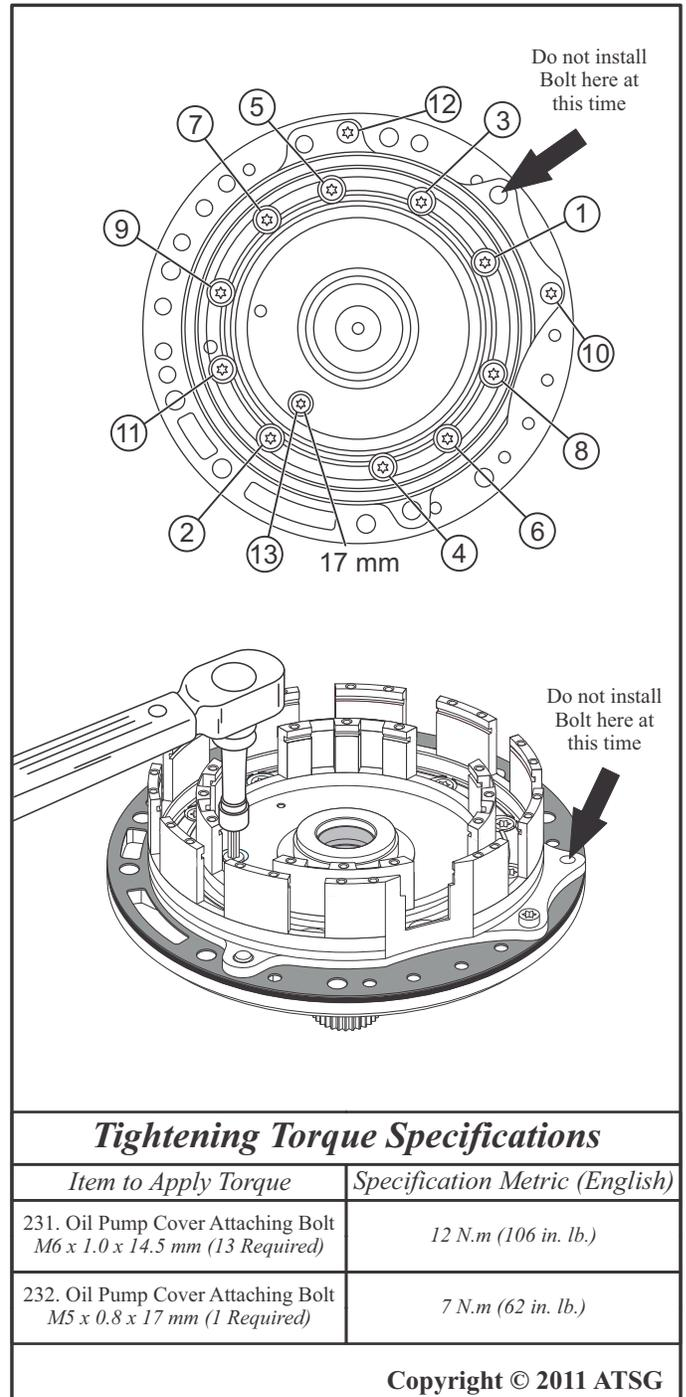

Figure 105
33. Tighten the 12 installed Oil Pump Cover Attaching Bolts using the pattern as shown in Figure 105.
34. Torque the bolts using an appropriate torque wrench referring to the Torque Specifications as indicated in Figure 105.